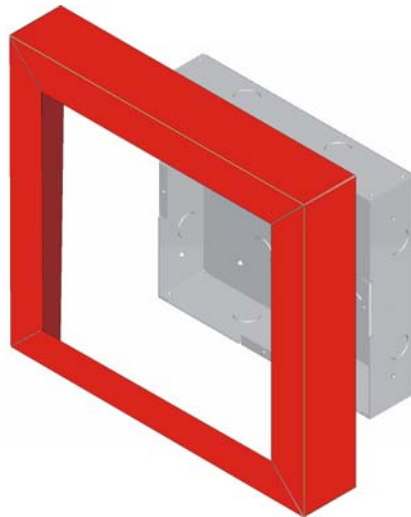

Figure 4-26 Installing Trim Ring
- Place the trim ring over the back box as shown in Figure 4-26.